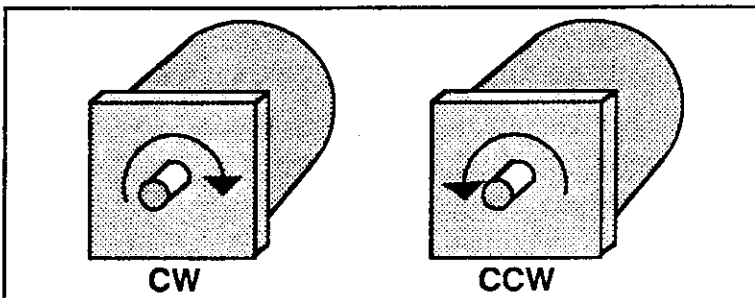

Figure C-1. CW and CCW Motor Rotation
Throughout this user guide, you will find references to positive (+) and negative (-) motor rotation. Positive refers to clockwise (CW) rotation and negative refers to counter-clockwise (CCW) rotation. *NOTE: This convention is accurate only if you connect the motor according to the instructions provided in this user guide. Refer to Figure C-1 to determine CW and CCW rotation.*